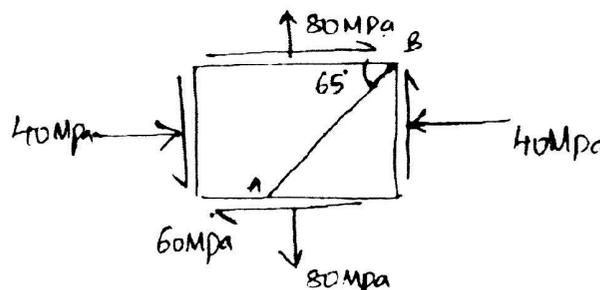

Fig. Q3 (b)
c. At a point in a strained material, the stresses are as shown in Fig. Q3 (c). Determine the (i) Principal stress (ii) Normal and tangential stress on the plane AB. (iii) Maximum shear stress. (10 Marks)